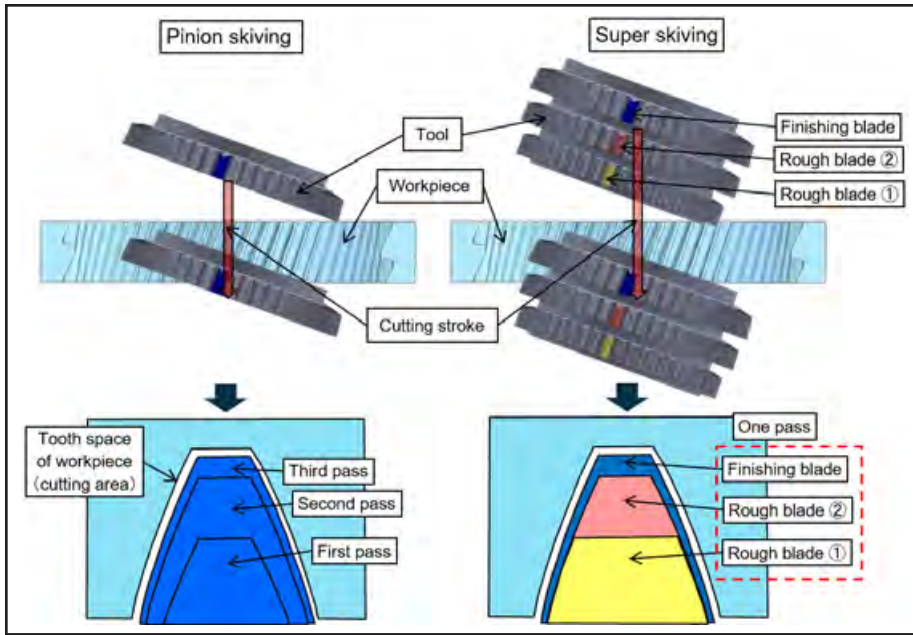

Figure 7 Cutter blades of tool used in the cutting area.
As illustrated in Figure 7, the advantages of SSC are as follows:
PSC cuts the tooth space of a workpiece using the same finishing blade (Figure 7 presents the case of cutting in 3 passes), while SSC has three cutter blades (rough blade (1), rough blade (2), finishing blade) so that it can cut the tooth space of a workpiece in one pass using different cutter blades. The cutting load on one cutter blade of SSC was reduced to one third of PSC, and SSC achieved a longer tool life.
this case, the C/T of SSC is shortened by about 40%. The cycle times of PSC and SSC do not simply correspond to the number of passes, because the cutters have different thicknesses and their cutting strokes are different, as can be seen in Figure 7.